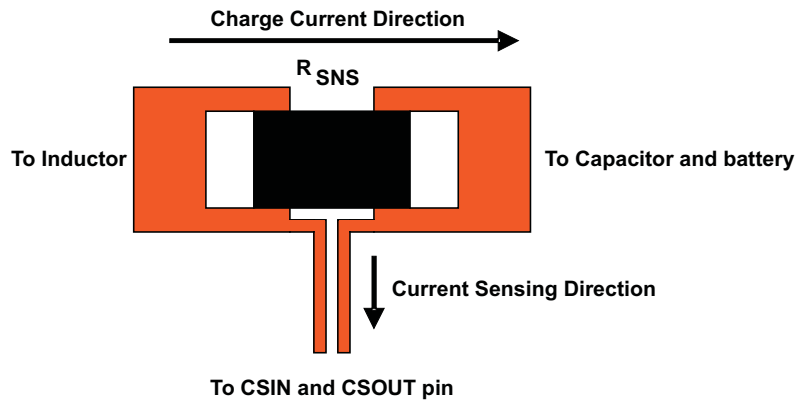

Figure 40. Sensing Resistor PCB Layout
- To obtain optimal performance, the power input capacitors, connected from input to PGND, should be placed as close as possible to the pin. The output inductor should be placed close to the IC and the output capacitor connected between the inductor and PGND of the IC. The intent is to minimize the current path loop area from the SW pin through the LC filter and back to the PGND pin. To prevent high frequency oscillation problems, proper layout to minimize high frequency current path loop is critical. (See Figure 39.) The sense resistor should be adjacent to the junction of the inductor and output capacitor. Route the sense leads connected across the RSNS back to the IC, close to each other (minimize loop area) or on top of each other on adjacent layers (do not route the sense leads through a high-current path). (See Figure 40.)